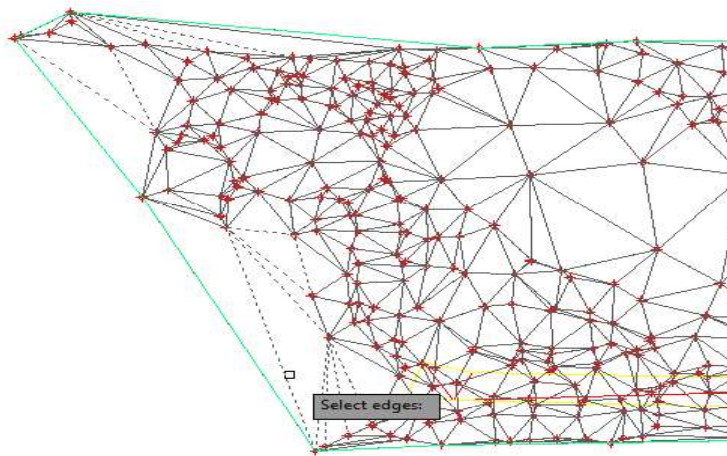

Figure 3-70 Selecting the longer edges of the triangles
5. Select all the longer edges on the left side of the surface and shorter edges on the top left corner, as shown in Figure 3-70.